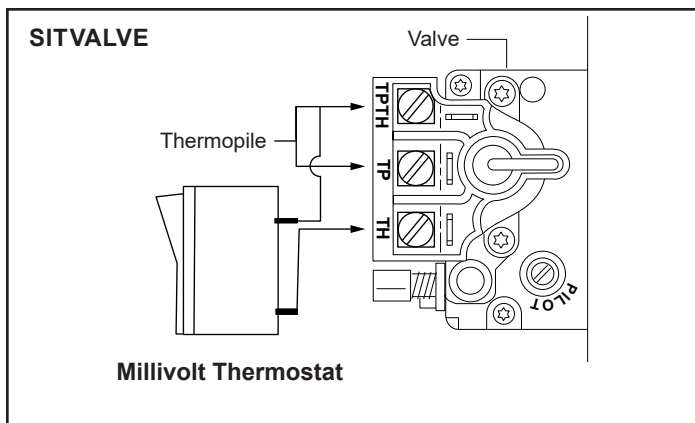

Figure 3.26 - Install wiring to Thermostat before connecting to valve.
2. Connect the thermostat or wall switch wires to the valve, Figure 3.26.